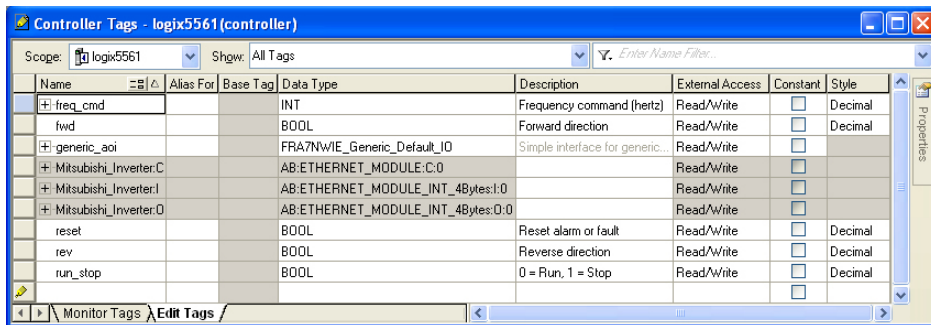

Figure 89: Create Generic Default AOI Tags
- 4) Create the tags in Figure 89.